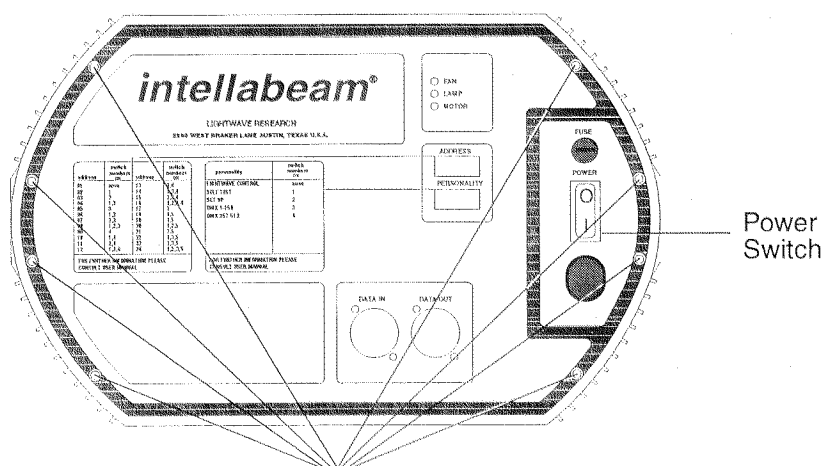

Figure 8.5. intellabeam Fixture Rear panel View
1. First, remove power from the fixture by pressing the power switch to the “Off” (press the O side of switch) position and then unplug the fixture. Refer to Figure 8.5 to locate the power switch.
2. Next, you remove the fixture's rear panel. Remove the eight 9/64 inch allen head screws securing it to the fixture. Refer to Figure 8.5.